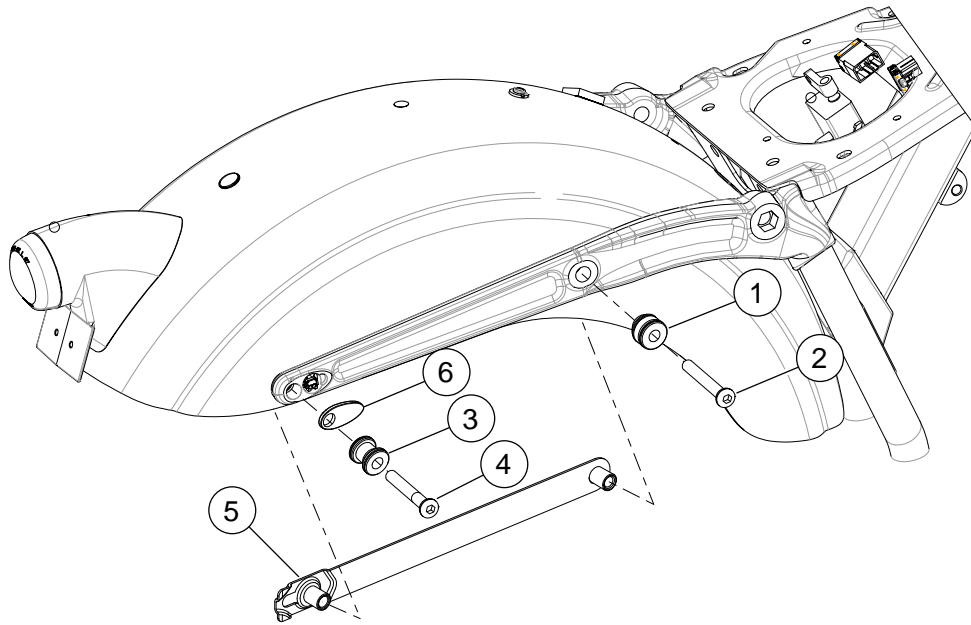

Figure 1. Service Parts: FXDB Docking Hardware Kit
See Figure 1 and Table 1.
2. See Figure 1 and Table 1. Apply Loctite 243 (Blue) to button head bolt (2) prior to installation. Place the tapered side of front docking point (1) against the strut. Insert button head bolt (2) through the docking point, fender and fender mounting bracket (5). Tighten to 12-18 ft-lbs (16.3-24.4 Nm).
3. Apply Loctite 243 (Blue) to button head bolt (4) prior to installation. Install spacer recess cover (6), rear docking point (3) and bolt (4) to fender mounting bracket and tighten to 12-18 ft-lbs (16.3-24.4 Nm).